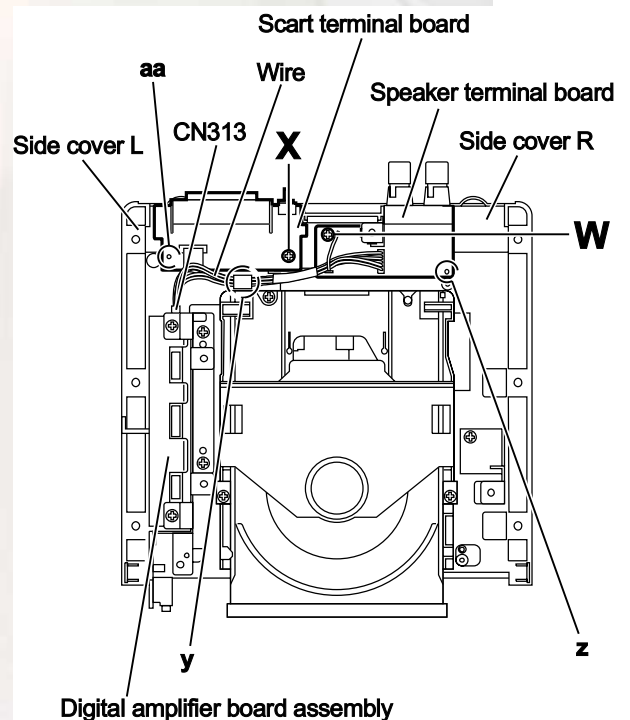

Fig.22
3.1.13 Removing the scart terminal board (See Fig.22) [For B/E/EN/EV/EE version]